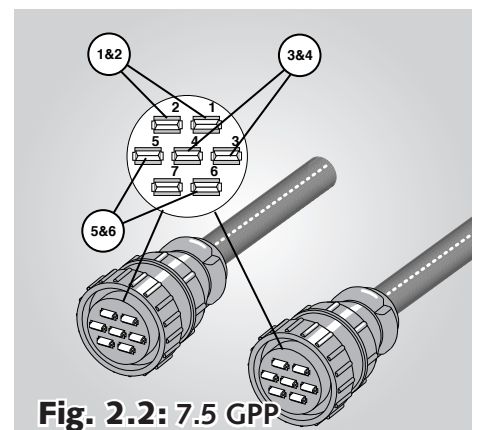

Fig. 2.2: 7.5 GPP
7.5 GPP:	1 & 2 / 3 & 4 / 5 & 6 (See Fig. 2.2)
- RMS AC. Pairs: 1 & 2, 3 & 4 and 5 & 6 (See Fig. 2.2).